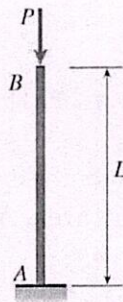

Figure 3
**Q.5** A cantilever aluminum column (see Figure 3) has a square tube cross section with an outer dimension of 150 mm. The column has a length  $L=4$  m and is designed to support an axial load of 45 kN. Find the minimum required thickness of the section if the factor of safety  $n=2.5$  with respect to buckling. Assume that the modulus of elasticity is 72 GPa and the proportional limit is 480 MPa.